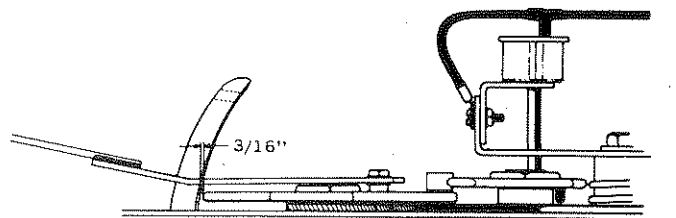

*Fig. 20*
5. Adjust the needle height by loosening the lock nuts on the needle yoke drive rods, see *Fig. 20*. Turn the rods to the right or left for the desired setting. Be sure both are adjusted for equal load at top dead center.